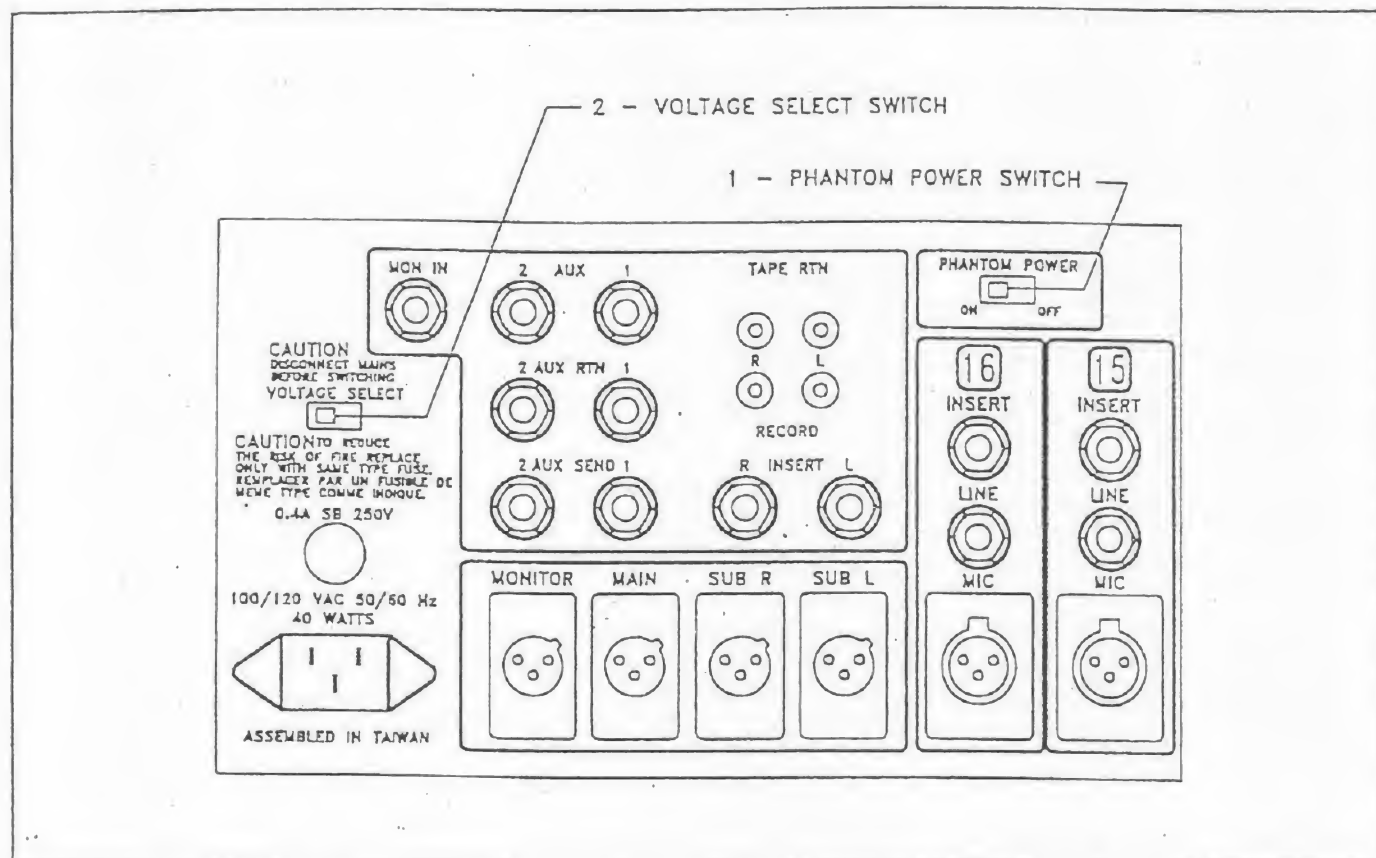

Figure 8: Rear Panel Switches
3.5 Rear Panel Switches (Refer to Figure 8.)